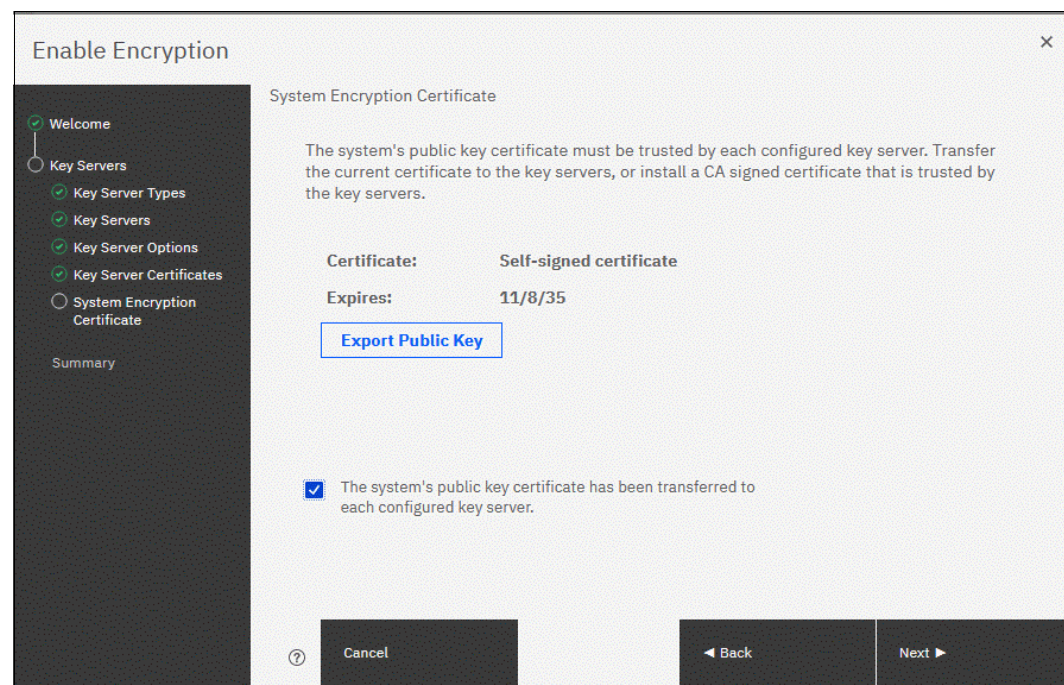

Figure 12-35 Downloading the IBM Spectrum Virtualize SSL certificate
8. Configure the IBM Security Key Lifecycle Manager key server to trust the public key certificate of the IBM Spectrum Virtualize system. You can download the IBM Spectrum Virtualize system public SSL certificate by clicking **Export Public Key**, as shown in Figure 12-35. Install this certificate in the IBM Security Key Lifecycle Manager key server in the Spectrum_VIRT device group.